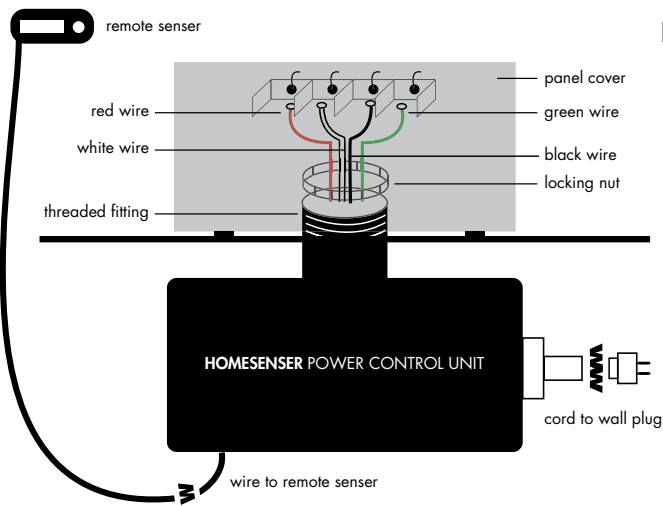

FIGURE 2
9. Remove metal locking nut from threaded fitting. (See Figure 2 for location)
11. 3-WIRE CONNECTIONS: Connect HomeSenser's three color-coded wires (black and red on the outsides with the white in middle) to the back of the stove as shown in Figure 2. YOU WILL ALSO CONNECT THE GROUND/GREEN WIRE TO THE GREEN GROUNDING SCREW BELOW THE TERMINAL BLOCK. IF NO GREEN SCREW IS AVAILABLE, CONNECT TO THE NEUTRAL/WHITE TERMINAL.
12. 4-WIRE CONNECTIONS: Connect HomeSenser's four color-coded wires (green to ground, black and red on the outsides with white in the middle) to the back of the stove as shown in Figure 2.